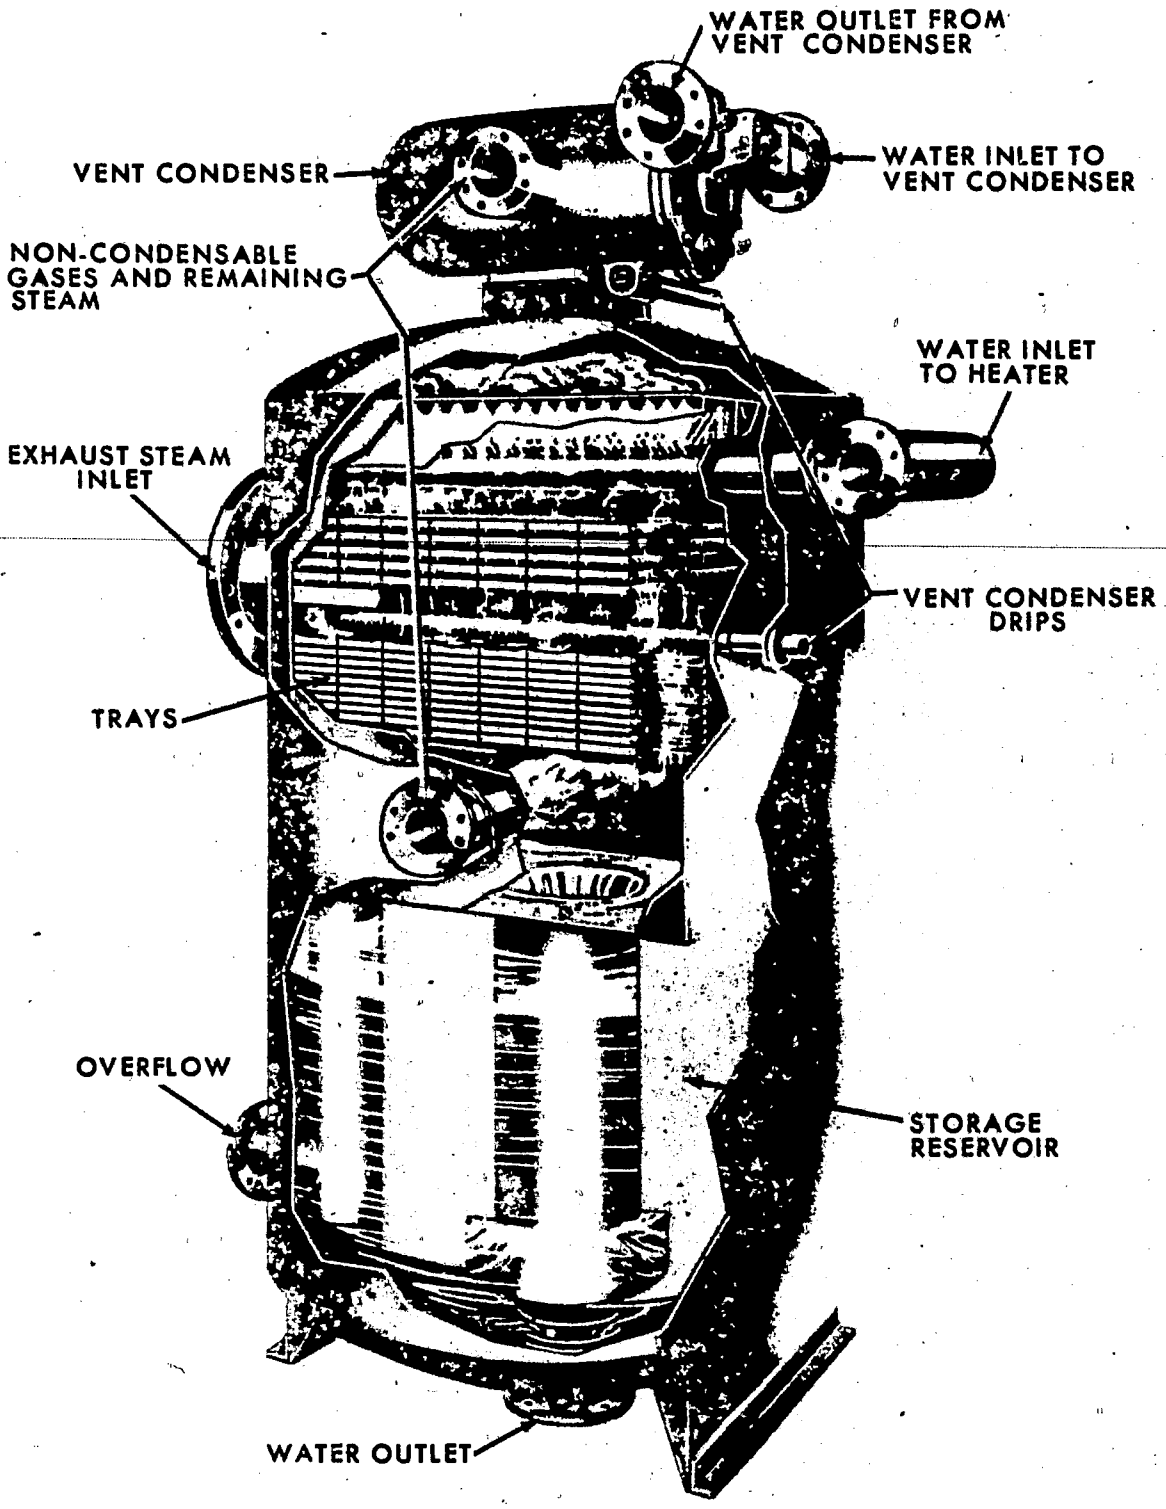

Figure 22. Tray-type deaerating heater.
14. *Deaerators.* Deaerators and deaerating heaters are of the tray type and the spray type, depending upon the method used to break up the water. Figure 22 illustrates a tray-type deaerating heater. During operation, the water passes through the vent condenser, enters the spray distributor, and is sprayed upward. The water breaks into small droplets and is forced into intimate contact with the steam. Most of the noncondensable gases are eliminated and the water is heated almost to a steaming temperature. When the water reaches the temperature of saturated steam, corresponding to the pressure in the deaerator, the gases are completely liberated. The